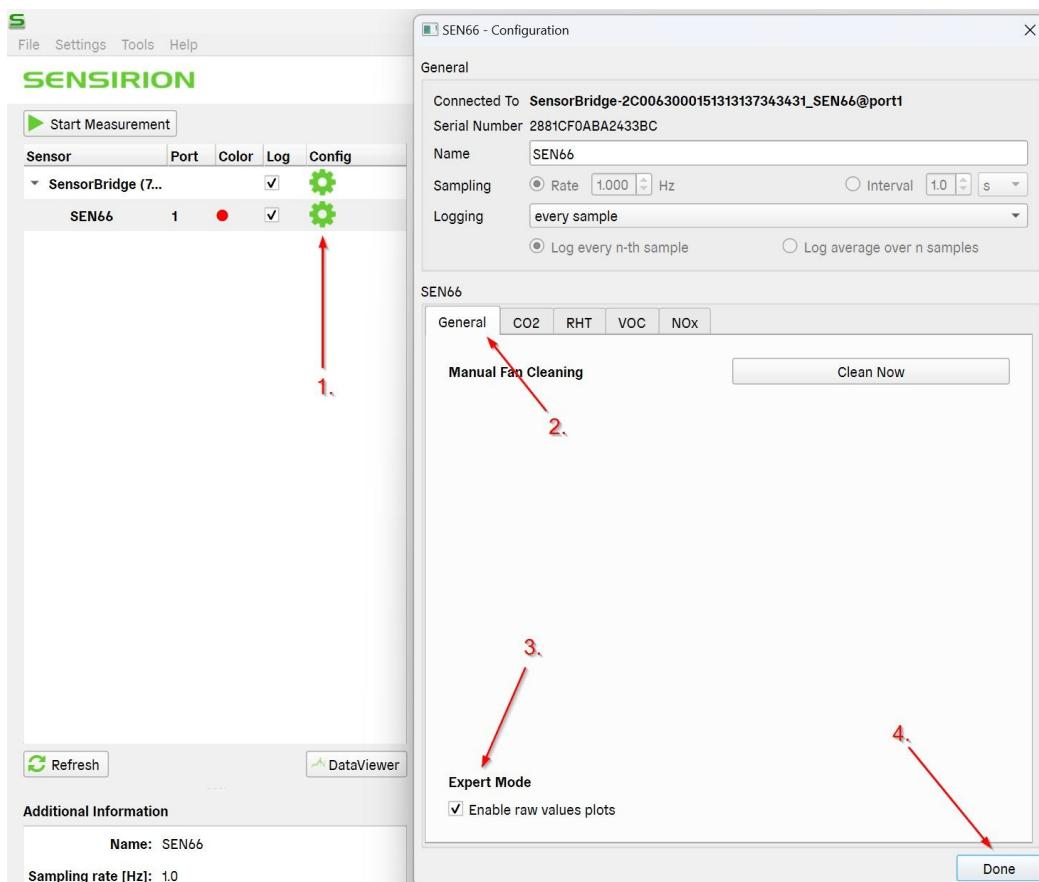

Figure 6. *Enable raw values plots* for SEN6x
In ControlCenter, make sure to click on the gear icon next to SEN6x sensor module name and select the "*Enable raw values plots*" checkbox, as seen in **Figure 6**, to see the raw temperature signal from the module additionally to the compensated signal.
- d. Tick the box to record raw values, as shown in Figure 6